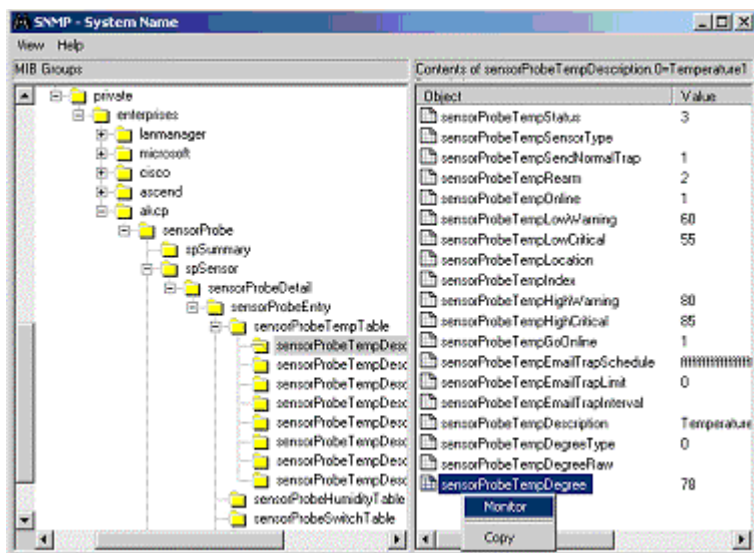

Figure 5 SNMPbrowser
1.1 From SNMP browser, right-click a desired SNMP variable to be monitored on the right pane of the browser as show in Figure 5.